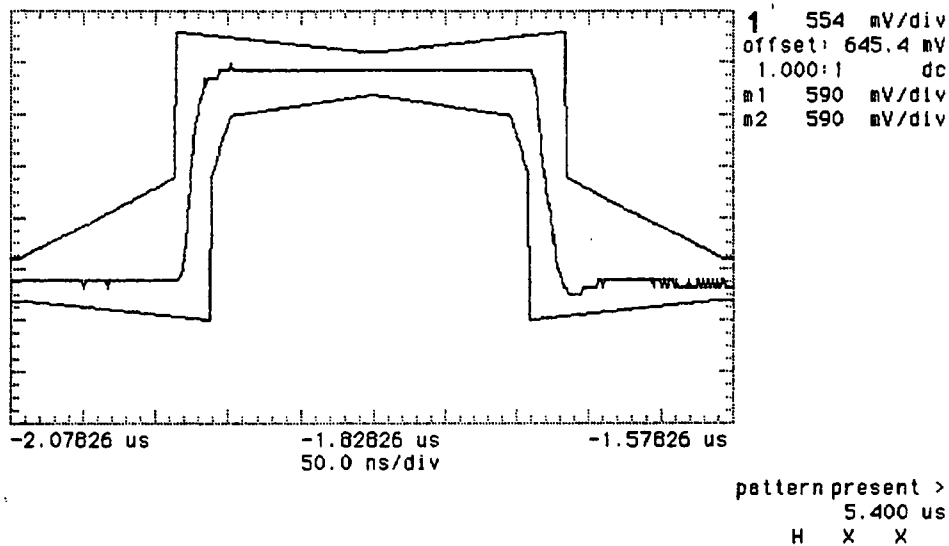

Figure 3-31. 2 Mb/s Isolated Positive Pulse
15. Press SHIFT **AUTOSCALE** on the oscilloscope to automatically align the pulse to the mask. Verify that the pulse falls within the mask as shown in Figure 3-31.